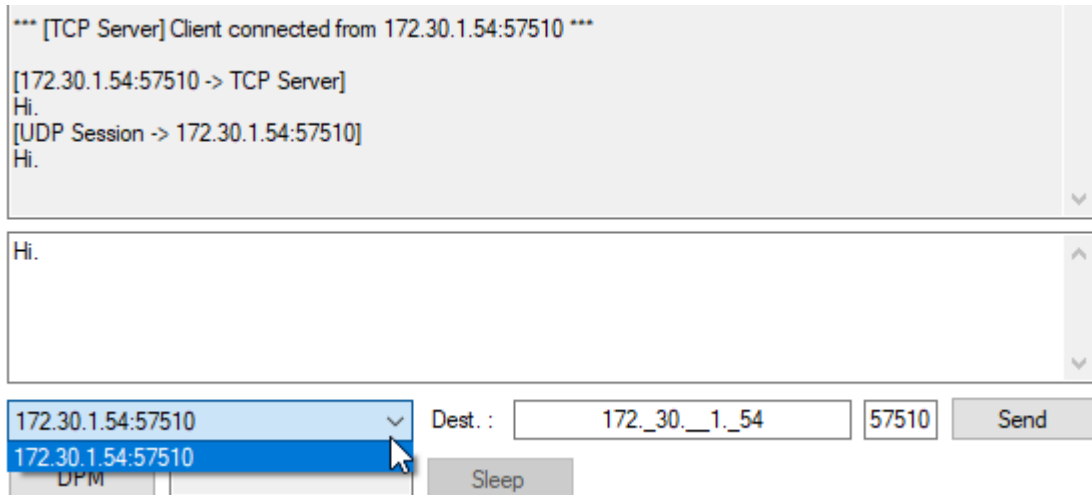

Figure 29: TCP Server Data Transfer
- **TCP Server:** Select the **TCP Server** checkbox > Select the destination IP in the drop-down list > Type a message > Click the **Send** button (see Figure 29)